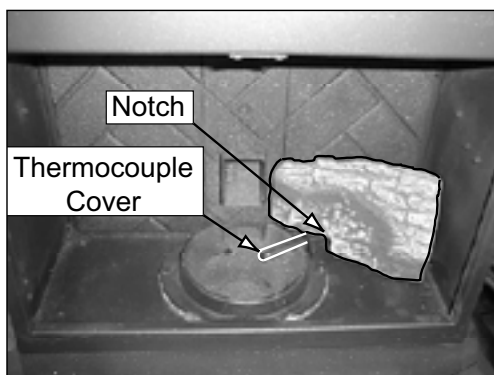

Figure 19.1
2. To position the logs, place the right rear log as shown in **Figure 19.1**. There is a notch in the bottom of the log for clearance for the thermocouple and thermocouple cover (ceramic protection tube).